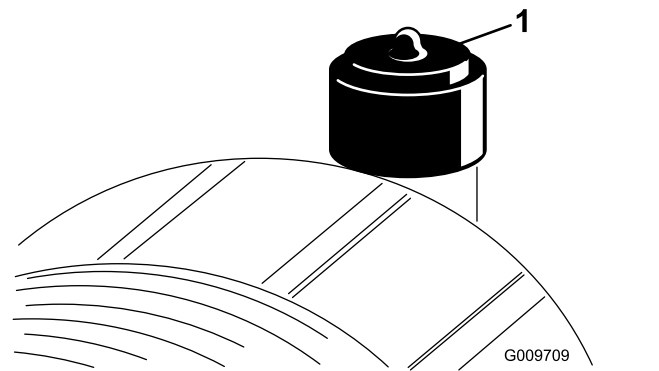

Figure 51
Service the air-cleaner element only when the restriction indicator (Figure 51) requires it. Changing the air cleaner element before it is necessary increases the chance of dirt entering the engine when you remove the element.
- Reset the restriction indicator (Figure 51) if it shows red.